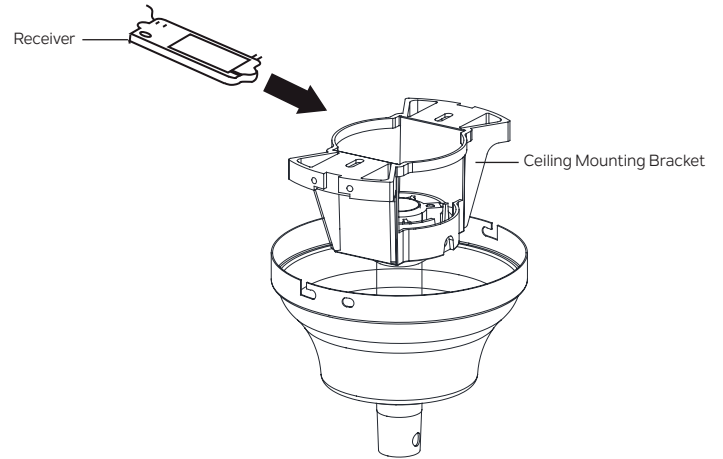

Fig. 13
Step 1. Insert the receiver into the ceiling mounting bracket with the flat side of the receiver facing the ceiling. **(Fig.13)** For best performance, make sure the black antenna wire (on the end of the receiver) remains extended, and does not become tangled with the electrical wires.